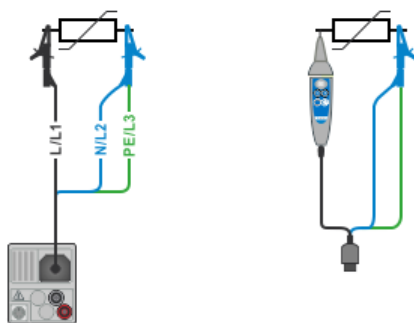
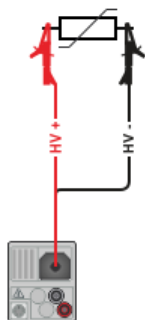

Figure 7.15: Connection of 3-wire test lead ($U_N \leq 1$ kV)
Figure 7.16: Connection of 2.5 kV test lead (Range: 2500 V)
- Connect test leads to object under test (see **Figure 7.15** and **Figure 7.16**).